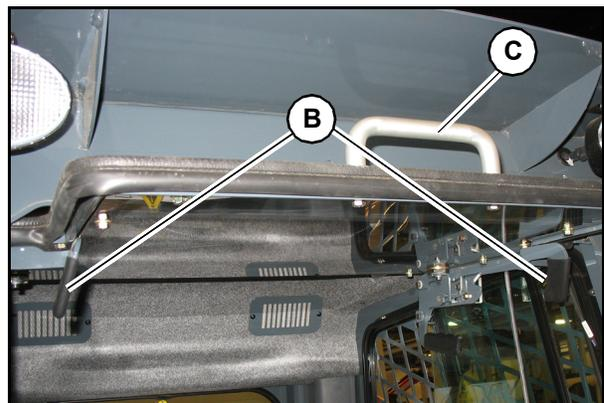

Fig. 48 – Closing the Door From the Outside
- a. Using small handles (B, Fig. 48), located on the underside of the door, pull the handles out and down sharply.
- b. Continue to pull down until reaching the bottom of the door frame, then use grab handle (C, Fig. 48) to push the door against the door frame until it latches.
- Pull the two smaller handles (B, Fig. 48) on the inside of the door inward and then lift up.